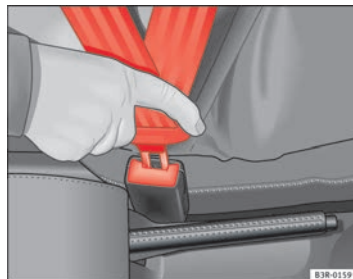

Fig. 11 Belt buckle and latch plate of seat belt
- Insert the latch into the buckle for the appropriate seat and push it down until it is securely locked with a click ⇒ page 22, fig. 11.